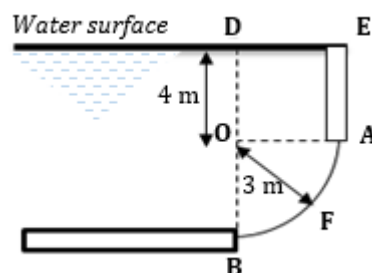

Figure 8
8. A 2 m long curved gate in the form of a quadrant of a circle is located in the side of tank containing water as shown in figure 8 below. Compute the horizontal, vertical and resultant force on the curved gate. (Ans: 323730 N, 374123.97 N, 494742.214 N)